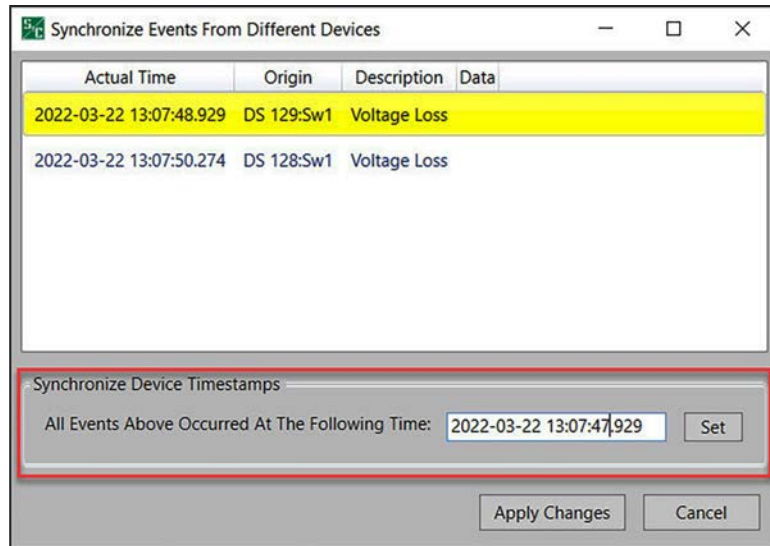

Figure 126. Synchronize Events From Different Devices dialog box.
- (d) To synchronize all the other device clocks with one specific device, click to select the device to synchronize. See Figure 126 on page 121.
- (f) Click on the **Apply Changes** button. This dialog box will close, and the event list below the circuit diagram will display events in the order modified, based on the input with this dialog. A pop-up message will be shown indicating the events have been re-ordered. See Figure 126 on page 121.